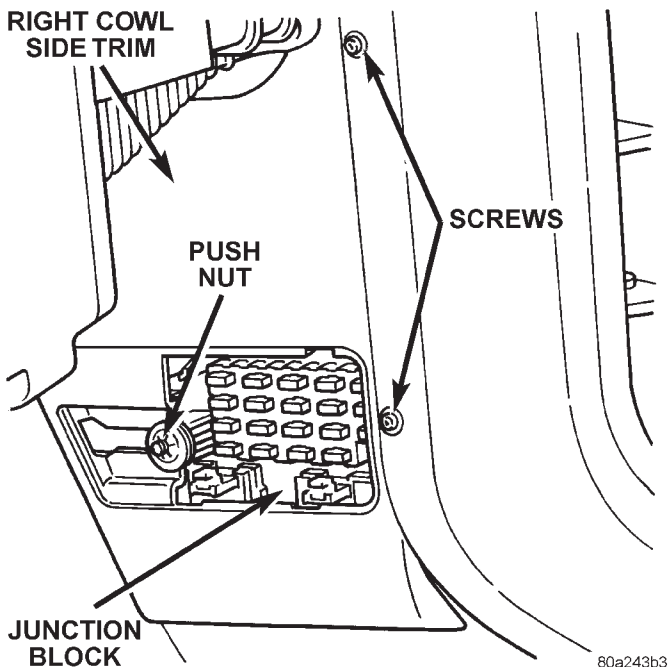

Fig. 22 Right Cowl Side Trim Panel Remove/Install
(1) Disconnect and isolate the battery negative cable.
(2) Remove the fuse access panel by unsnapping it from the right cowl side trim panel.
(3) Remove the push nut that secures the right cowl side trim panel to the junction block stud (Fig. 22).
(4) Remove the two screws that secure the right cowl side trim panel to the right front door opening trim.
(5) Remove the right cowl side trim panel.
(6) Unplug all of the wire harness connectors from the junction block cavities.